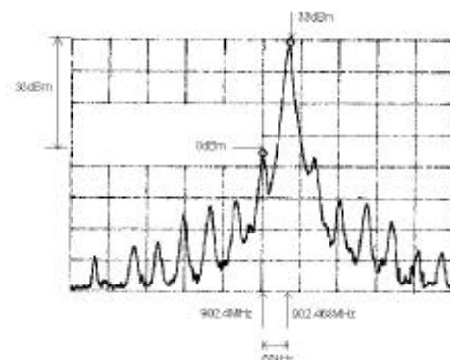

Figure 23: Carrier leakage ratio
2. (Figure 23) On the spectrum analyser measure the carrier leakage ratio. Carrier leakage ratio is measured as the ratio of peak power and the power at 68kHz below peak frequency.